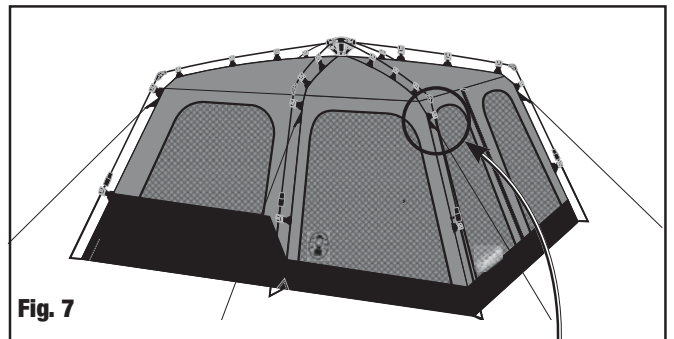

Fig. 7
- Verify the clips along the edges of the tent are properly attached to the frame poles. (Fig. 7 and Fig. 8)